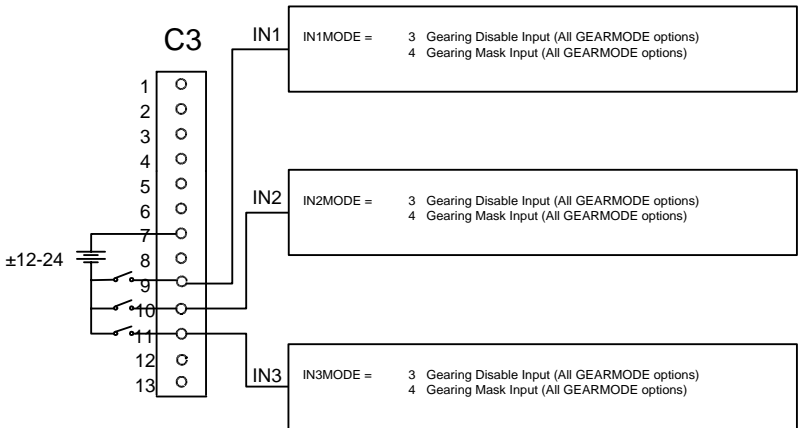

Figure 2 Disabling/Masking Input Configuration
*The Configurable Input (INx) does not need to be connected to enable – only to disable and mask (See Figure 2).*
There are two ways to disable the electronic gearing feature and motor movement. The first is to set **GEAR = 0** through serial port communications via a host terminal. The second gives you the ability to disable via a hardware switch through one of the configurable inputs (See Figure 2). By setting **INxMODE = 3** (where *x* is the input of choice), you can toggle the input active (on) to disable gearing. However, **PEXT** continues to increment as long as the input pulse signal is applied – but without motor movement.
The drive provides a masking switch (Figure 2) to allow you to stop motor movement and prevent **PEXT** from incrementing, even though the input pulse signal is still applied. By setting  $INxMODE = 4$  (where  $x$  is the input of choice), you can toggle the input active (on) to mask **PEXT** from the input pulse signal.